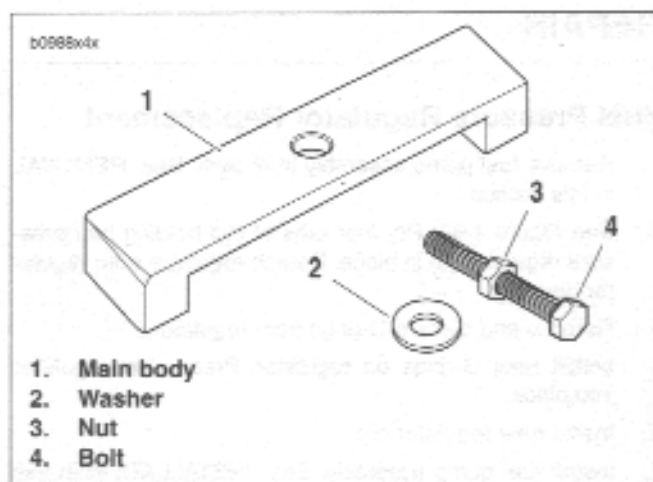
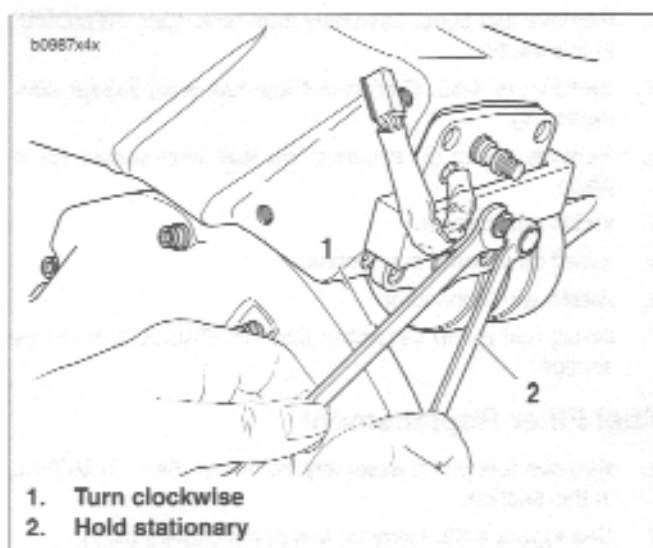

Figure 4-86. Fuel Pump Puller
Figure 4-87. Fuel Pump Removal
5. Remove four fuel pump fasteners (1).
6. See Figure 4-86. Assemble fuel pump puller.
- a. Thread nut (3) onto bolt (4).
- b. Slide washer (2) onto bolt.
- c. Insert bolt assembly into hole in main body (1).
7. See Figure 4-87. Place the main body of the fuel pump puller over the fuel pump assembly.